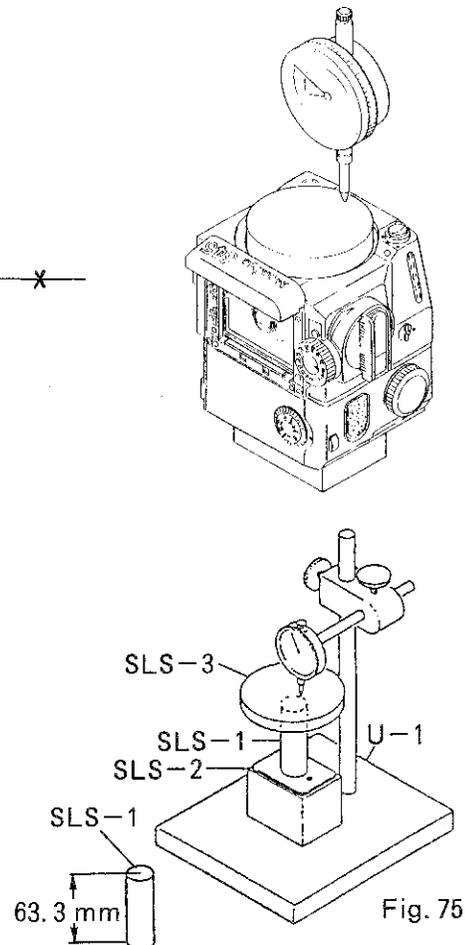

Fig. 75
* If an unexpected trouble takes place or the film holder frame is replaced, accuracy is maintained, but recheck is required. For checking, the flange back is the same as with SLS.SLT (M645, M645 1000S.J), so that with film holder frame installed on the camera body, a tool for SLT/SLS shown in Fig. 75 should be used for checkup.